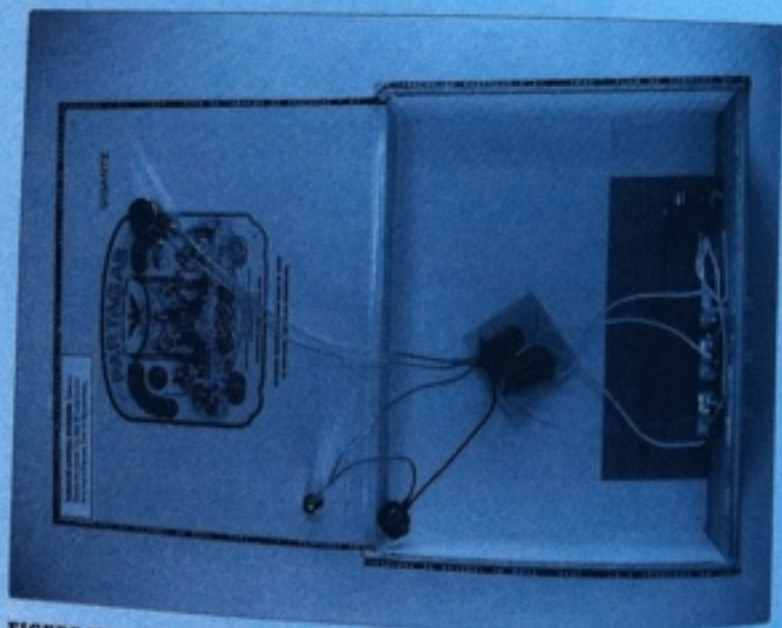
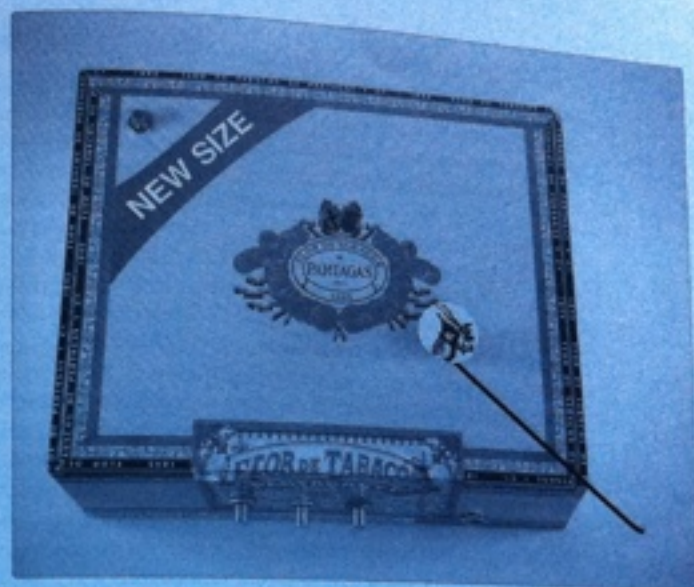

FIGURE 17-13: The installed guts
FIGURE 17-14: Mounting the tone-controller knob
- Step 15** To finish packaging the Cigar Box Synthesizer, drill two holes in the top of the box: one for the trigger switch and one for the pitch controller (see Figures 17-13 and 17-14)—a few swipes with the sandpaper will take out the splinters. Position the trigger in the upper-left corner, so it's clear of the pitch controller's arm. The most musically useful portion of the pitch controller's range of motion is the middle third, so place the hole for the tone-controller pot in the lower-right corner of the box top (as illustrated in Figure 17-14).
Once this pot is firmly mounted on the enclosure, twist its shaft so that it is turned fully clockwise or counterclockwise and can be twisted no further. Attach the tone-controller knob so that its wire extension arm points to the lower-right corner of the box (as shown in Figure 17-14).